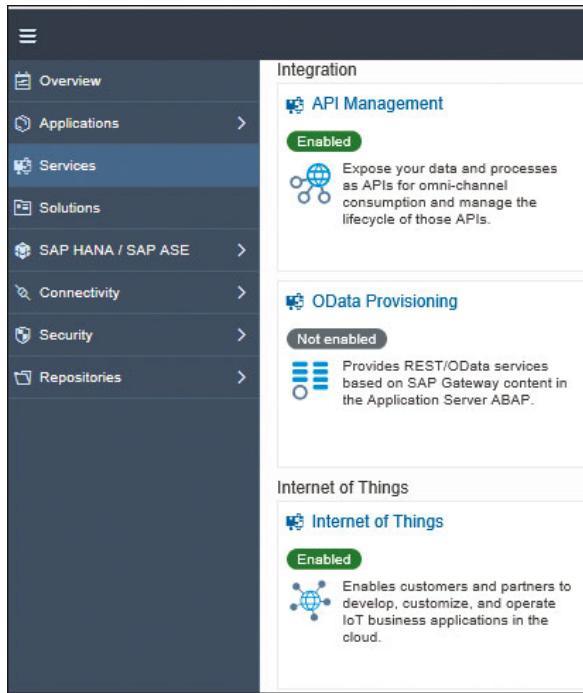

Figure 9.45 Navigating to the SAP API Management Service
2. Navigate to the **Services** section on the left menu (see Figure 9.45).
3. Click on the **API Management** link under the **Integration** section (see the right panel of Figure 9.45).